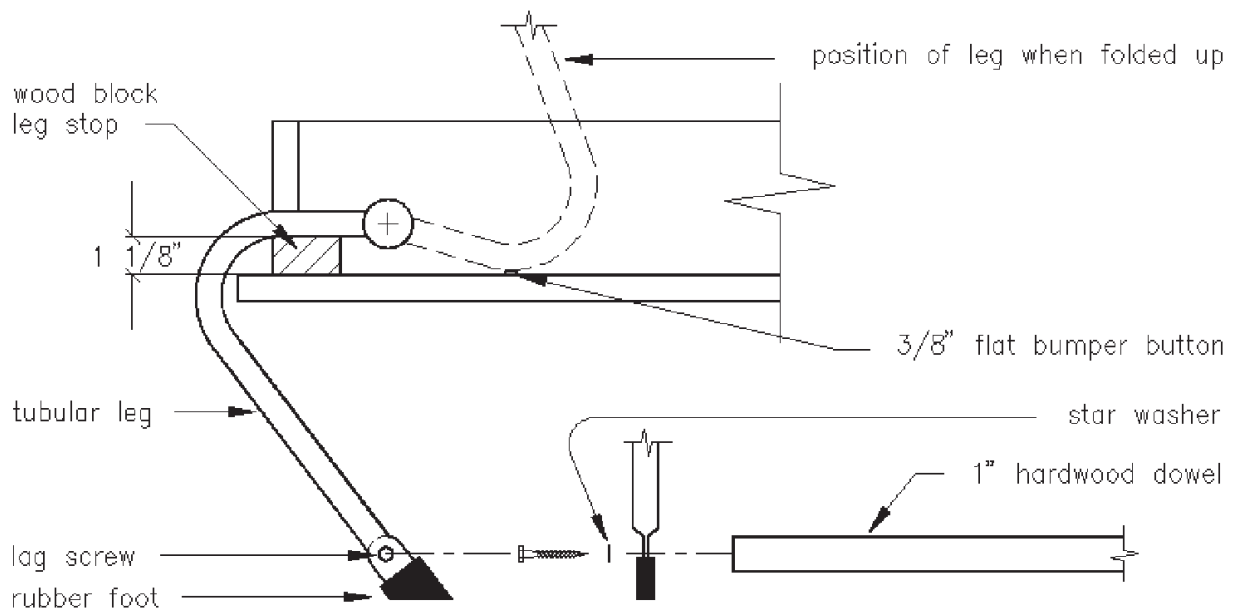

Figure 12. Installing the Legs.
- Pull the panel unit open to a convenient working height. Prior to installing the legs, lubricate the leg attachment hole with a little candle wax. Remove the 5/16" Nylock hexagon nuts and the 5/16" x 3/4"(OD) flat washers from the legs, leaving the "Lexan" black plastic washers in place. Insert the leg-screws through the rails, replace the washers and nuts and tighten the nuts so that both legs pivot with an *equal*, and just a slight amount of, friction.
- Glue and clamp the legs stops, positioning them so that they align with the outside face of the front rail, are snug against the end rails and are 1 1/8" high, see **Figure 12**.
- Attach the two 3/8" flat Bumper Buttons to the surface of the Bed Panels where the legs, when folded up, would contact the Panels, see **Figure 12**. Gently close the bed.